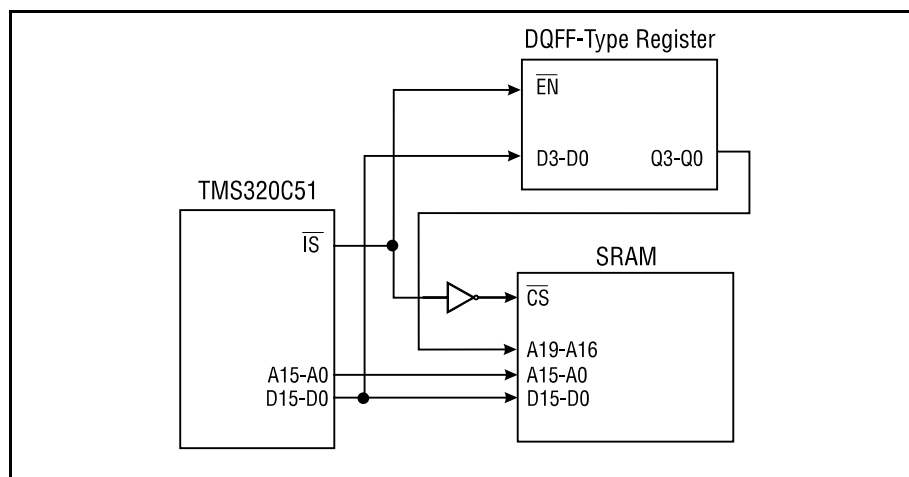

Figure 1. 'C5x paging hardware
**Solution** Since a 'C5x is a 16-bit machine with a 16-bit address, memory paging is needed if more than 64K of memory is to be addressed in a particular space. An external device needs to supply the upper addresses beyond the 16-bit memory range. This is done by having the DSP write a value to a register located in its I/O space whose data lines are the higher address bits. An example is shown below in Figure 1.